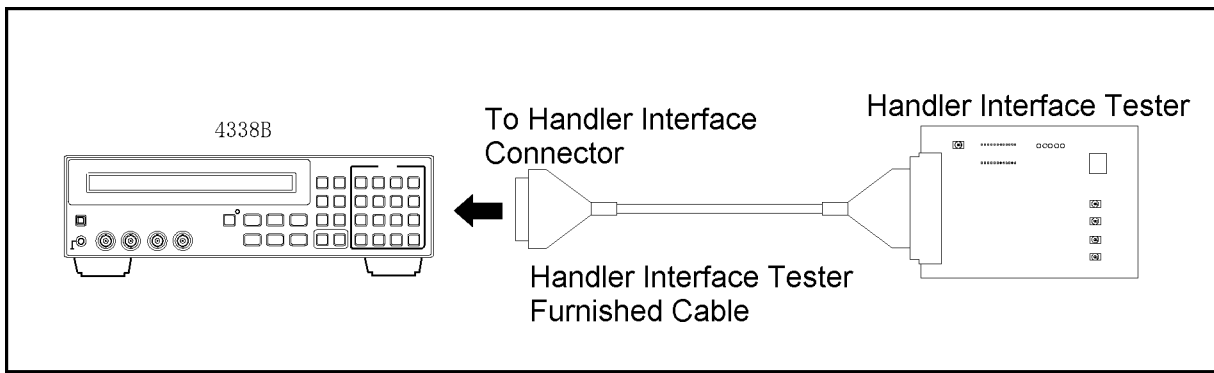

Figure 9-4. Handler Interface Functional Test Setup
3. Set up the equipment as shown in Figure 9-4